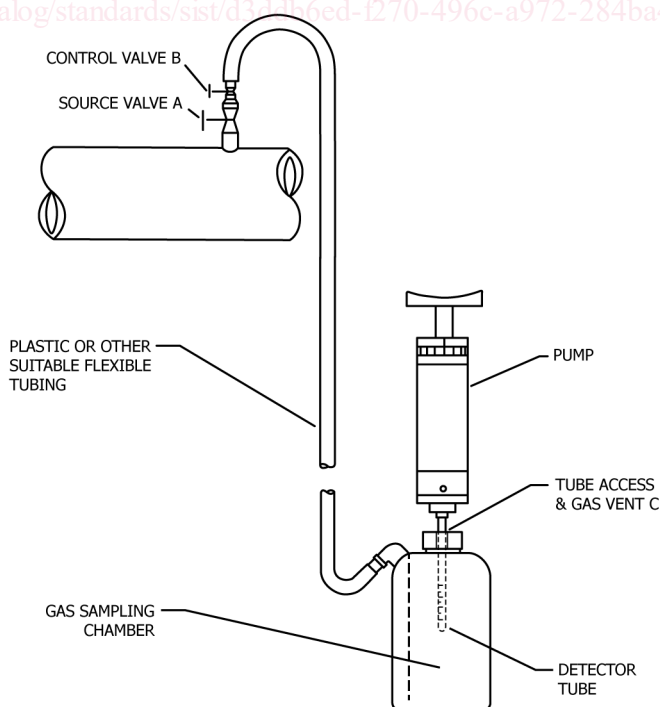

FIG. 1 Half Litre Polyethylene or Other Inert Bottle
7.3.1 A suitable container may be devised from a 0.5 L polyethylene bottle (see Fig. 1). A 6 mm outside diameter polyethylene tubing sealed into the bottle and discharging near the bottom of the bottle provides for flow into the sampling container. A 12 mm hole cut into the cap of the bottle provides both access for the detector tube and a vent for the excess gas flow.
8.1.1 Open the source valve (Valve A in Fig. 1) and briefly blow down vigorously to clear foreign material from the source valve and connecting nipple. Close the source valve.
8.1.2 Install the control valve (Valve B in Fig. 1) or pressure regulator on the outlet of the source valve. Connect outlet of the control valve to the gas sampling chamber using the shortest length practicable of suitable tubing.
8.1.3 Open the source valve and then the control valve to obtain a slight positive flow through the gas sampling chamber, venting to atmosphere through the tube access and vent (Vent C in Fig. 1).